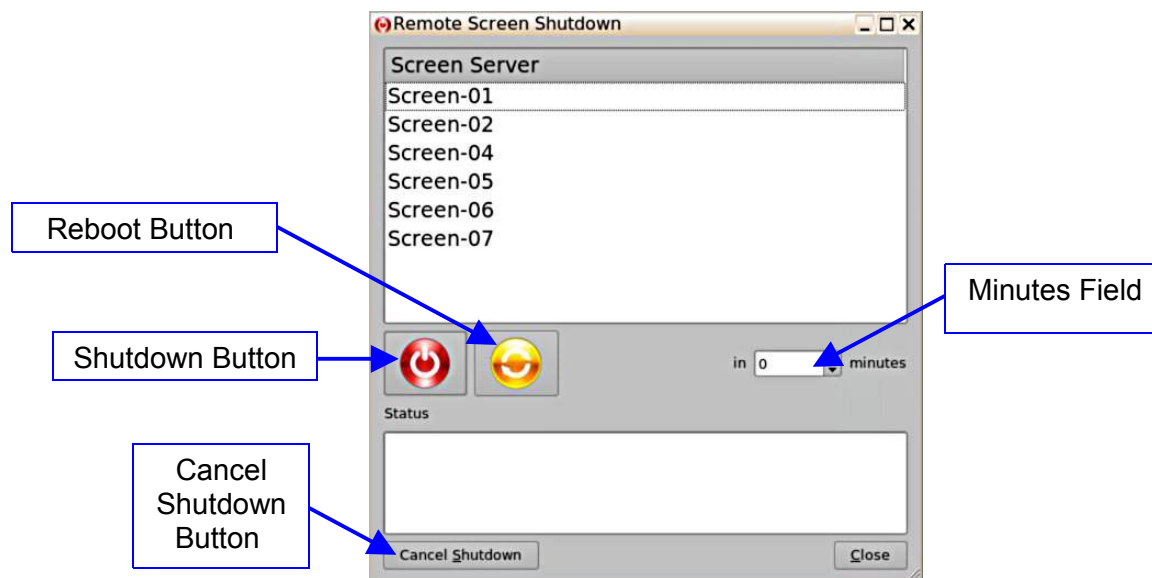

Figure 129: Remote Shutdown
- The following window will appear (Figure 129):
- Set the amount of minutes until the reboot or shutdown in the Minutes field (Figure 129).
- Click the Shutdown or Reboot button (Figure 129).
- To cancel the shutdown or reboot, click the Cancel Shutdown button (Figure 129).